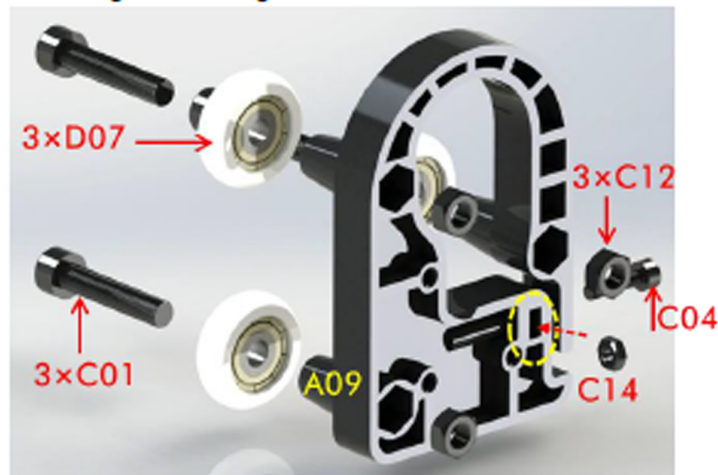

Fig. 15
Step 1. As shown in Fig. 15, fix 3 pulley wheels (D07) to the carriage (A09) using 3 pairs of C01 and C12. Insert C14 into the dash-circle area and fix a C04 screw from the side. Do not over tighten or twisting the carriage. Do the same to the rest of 2 carriages.